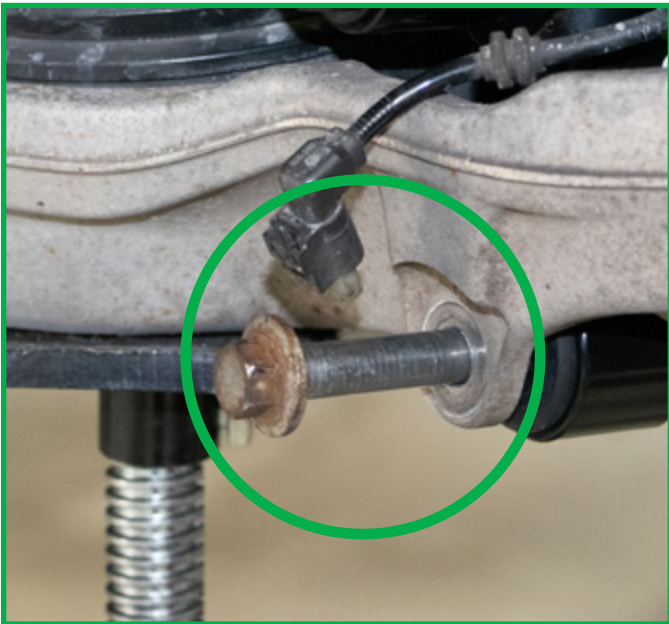

FIGURE 11
3. Install the lower shock mount bolt. Tighten to manufacturer's specifications. (Figures 11, 12)